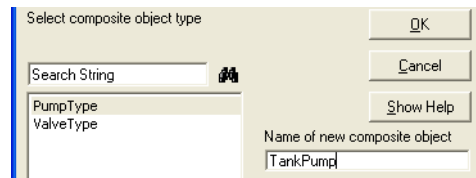

Figure 11. Add Object Type Instance
25. Enter an instance name. In this example, 'TankPump' is used, see Figure 11.